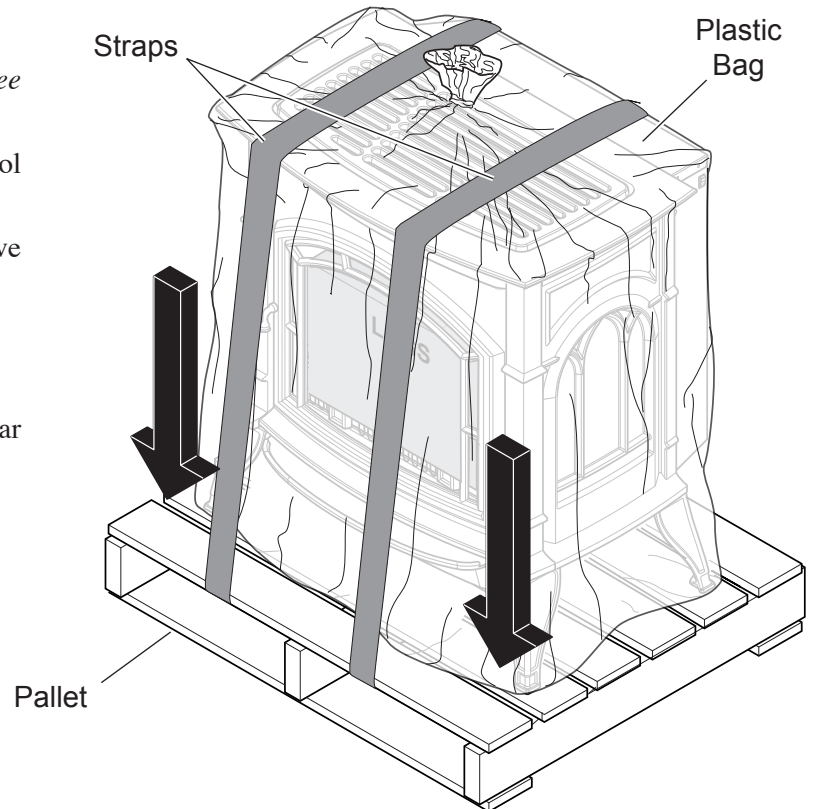

Figure 6 - Removing Straps and Plastic from Unit
1. Remove two (2) straps. See Figure 6.